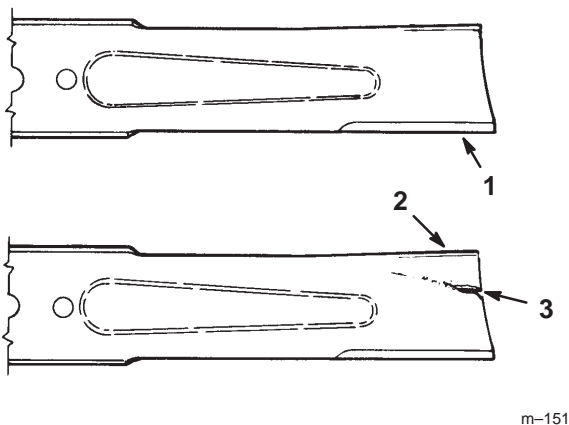

Figure 39
1. Inspect the cutting edges (Fig 39). If the edges are not sharp or have nicks, remove and sharpen the blades. Refer to Sharpening the Blades on page 35.
2. Inspect the blades, especially the curved area (Fig. 39). If you notice any damage, wear, or a slot forming in this area (item 3 in Fig. 39), immediately install a new blade.